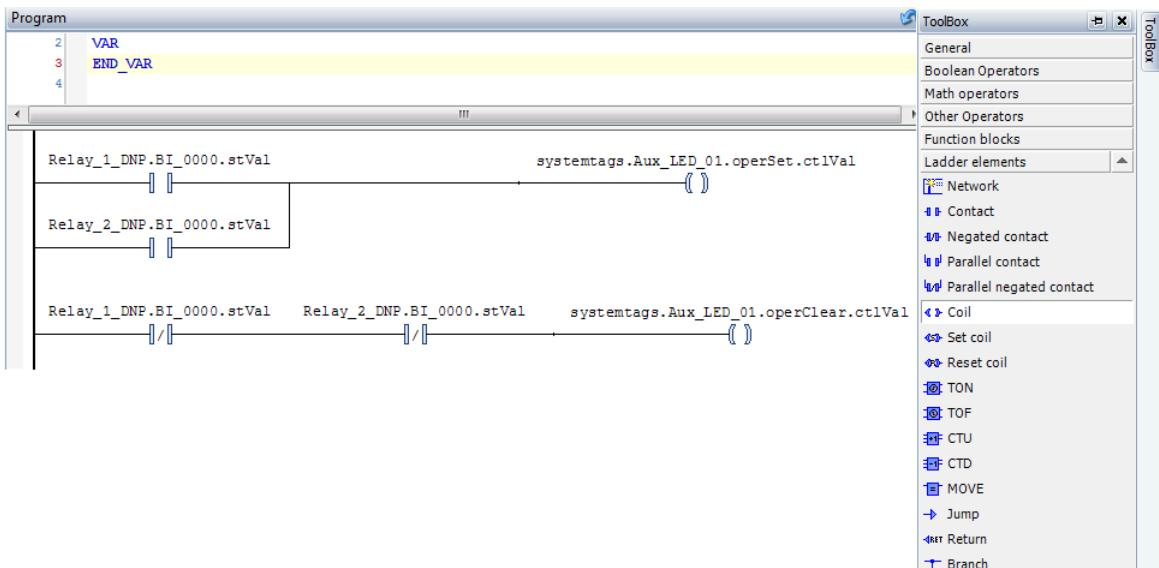

Figure 9.4 Example LD Program
- Step 9. In the ToolBox, click on **Parallel contact** and drag it onto the workspace. Place it on the down arrow that appears on the ladder (also refer to *Figure 9.4*).
- Step 11. Replace the ??? above the contacts and coil with the tag names shown in *Figure 9.4*. This ladder is a logical OR of the two status tags, with the output controlling the coil at the end of the ladder.
- Step 16. Replace the ??? above the contacts and coil with the tag names shown in *Figure 9.4*. This ladder is a logical AND of the two status tags with the output controlling the coil at the end of the ladder.